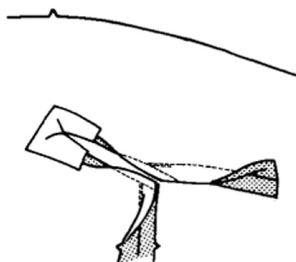

Figure 33
1. Stitch all bodice seams, making sure to end stitching at markings. Leave gusset area open. Press and finish seam appropriately (Figure 33).